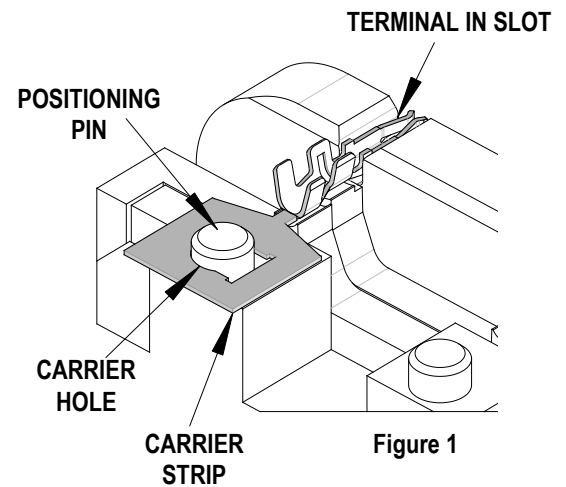

Figure 1
Singulate the terminal by cutting it from the reel along with the carrier strip which includes the carrier strip hole. See Figure 1. The carrier strip hole is used to assist in loading the terminal in position over the crimp anvils. The carrier strip will help maintain terminal position during crimping.
1. Load the terminal with carrier strip into the proper crimp profile. Make sure the carrier strip **pilot hole** fits over the positioning pin and the end of the terminal is inserted in the hand tool slot. See Figure 1.